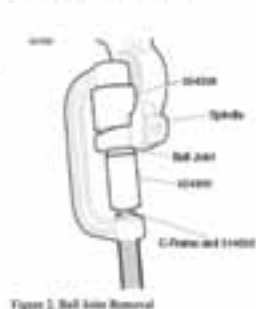

Figure 2. Ball Joint Removal
- Position 554389 over the stem of the ball joint as shown in Figure 2.